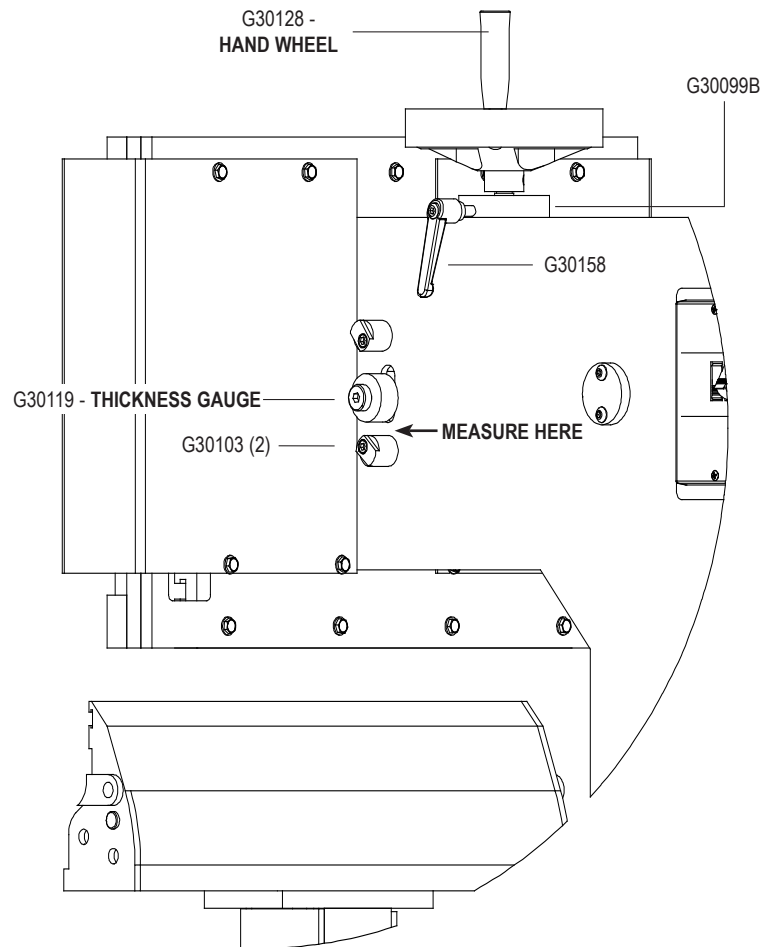

Figure 2 - Work Thickness Adjustment
3.1 ADJUSTING THE MACHINE FOR THICKNESS OF WORK (See Figure 2)